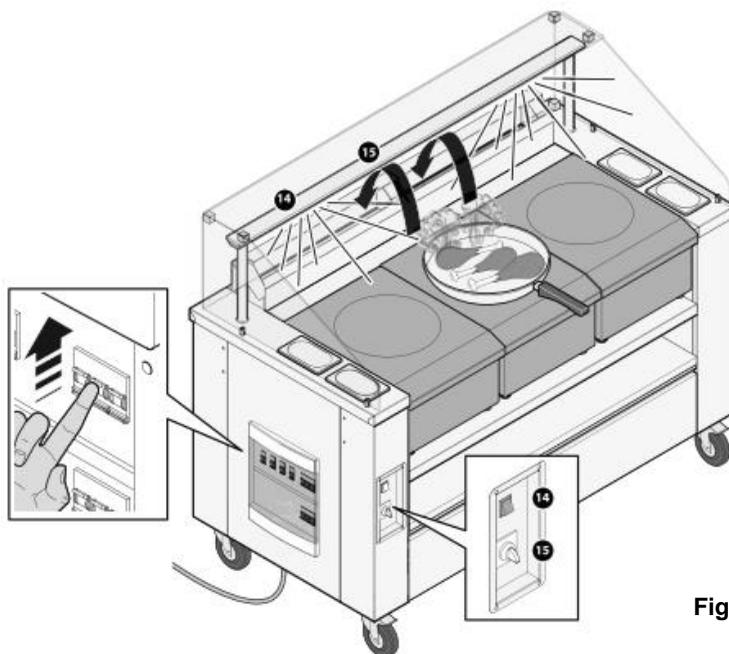

Fig. 14
- Slide up the security switch in the control box to supply voltage to the cooking station and to power sockets the devices are connected wherein (fig.14).
- If required, connect the LED lighting with the switch **14** (fig. 14) on the control panel of the device.
- In the very cooking station there is ventilation with integrated filtering system installed which provide sucking of the fumes produced by the connected devices. Use the switch **15** (fig. 14) to turn on the device fan.